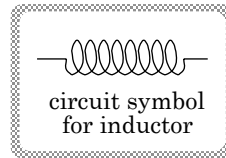

FIGURE 17.21
1.) The symbol for a *coil* in an electrical circuit is shown in Figure 17.21 (yes, I know, there isn't a Figure 17.20--again, life's tough). Coils are called a number of different things: chokes, solenoids, inductors. The last is the most common usage; the first is slang.